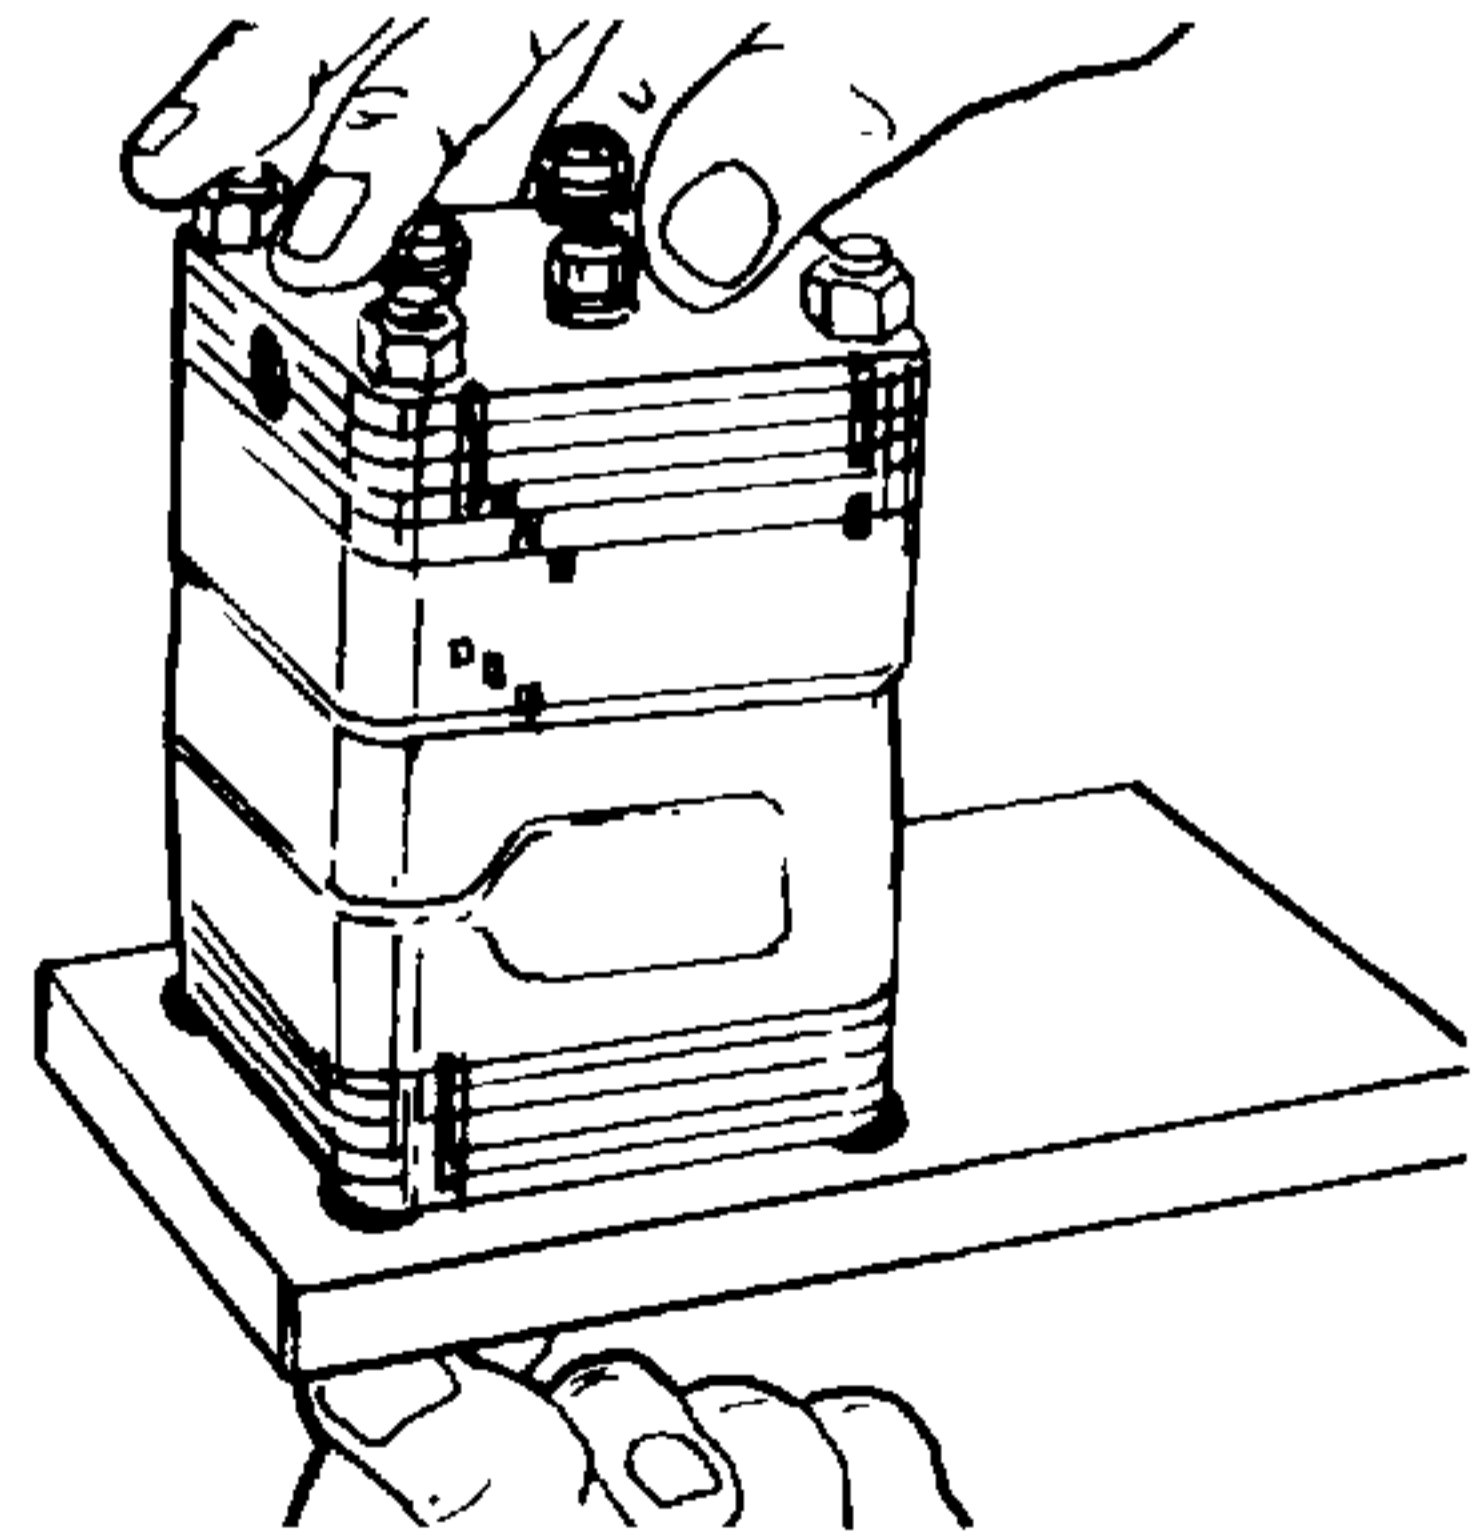
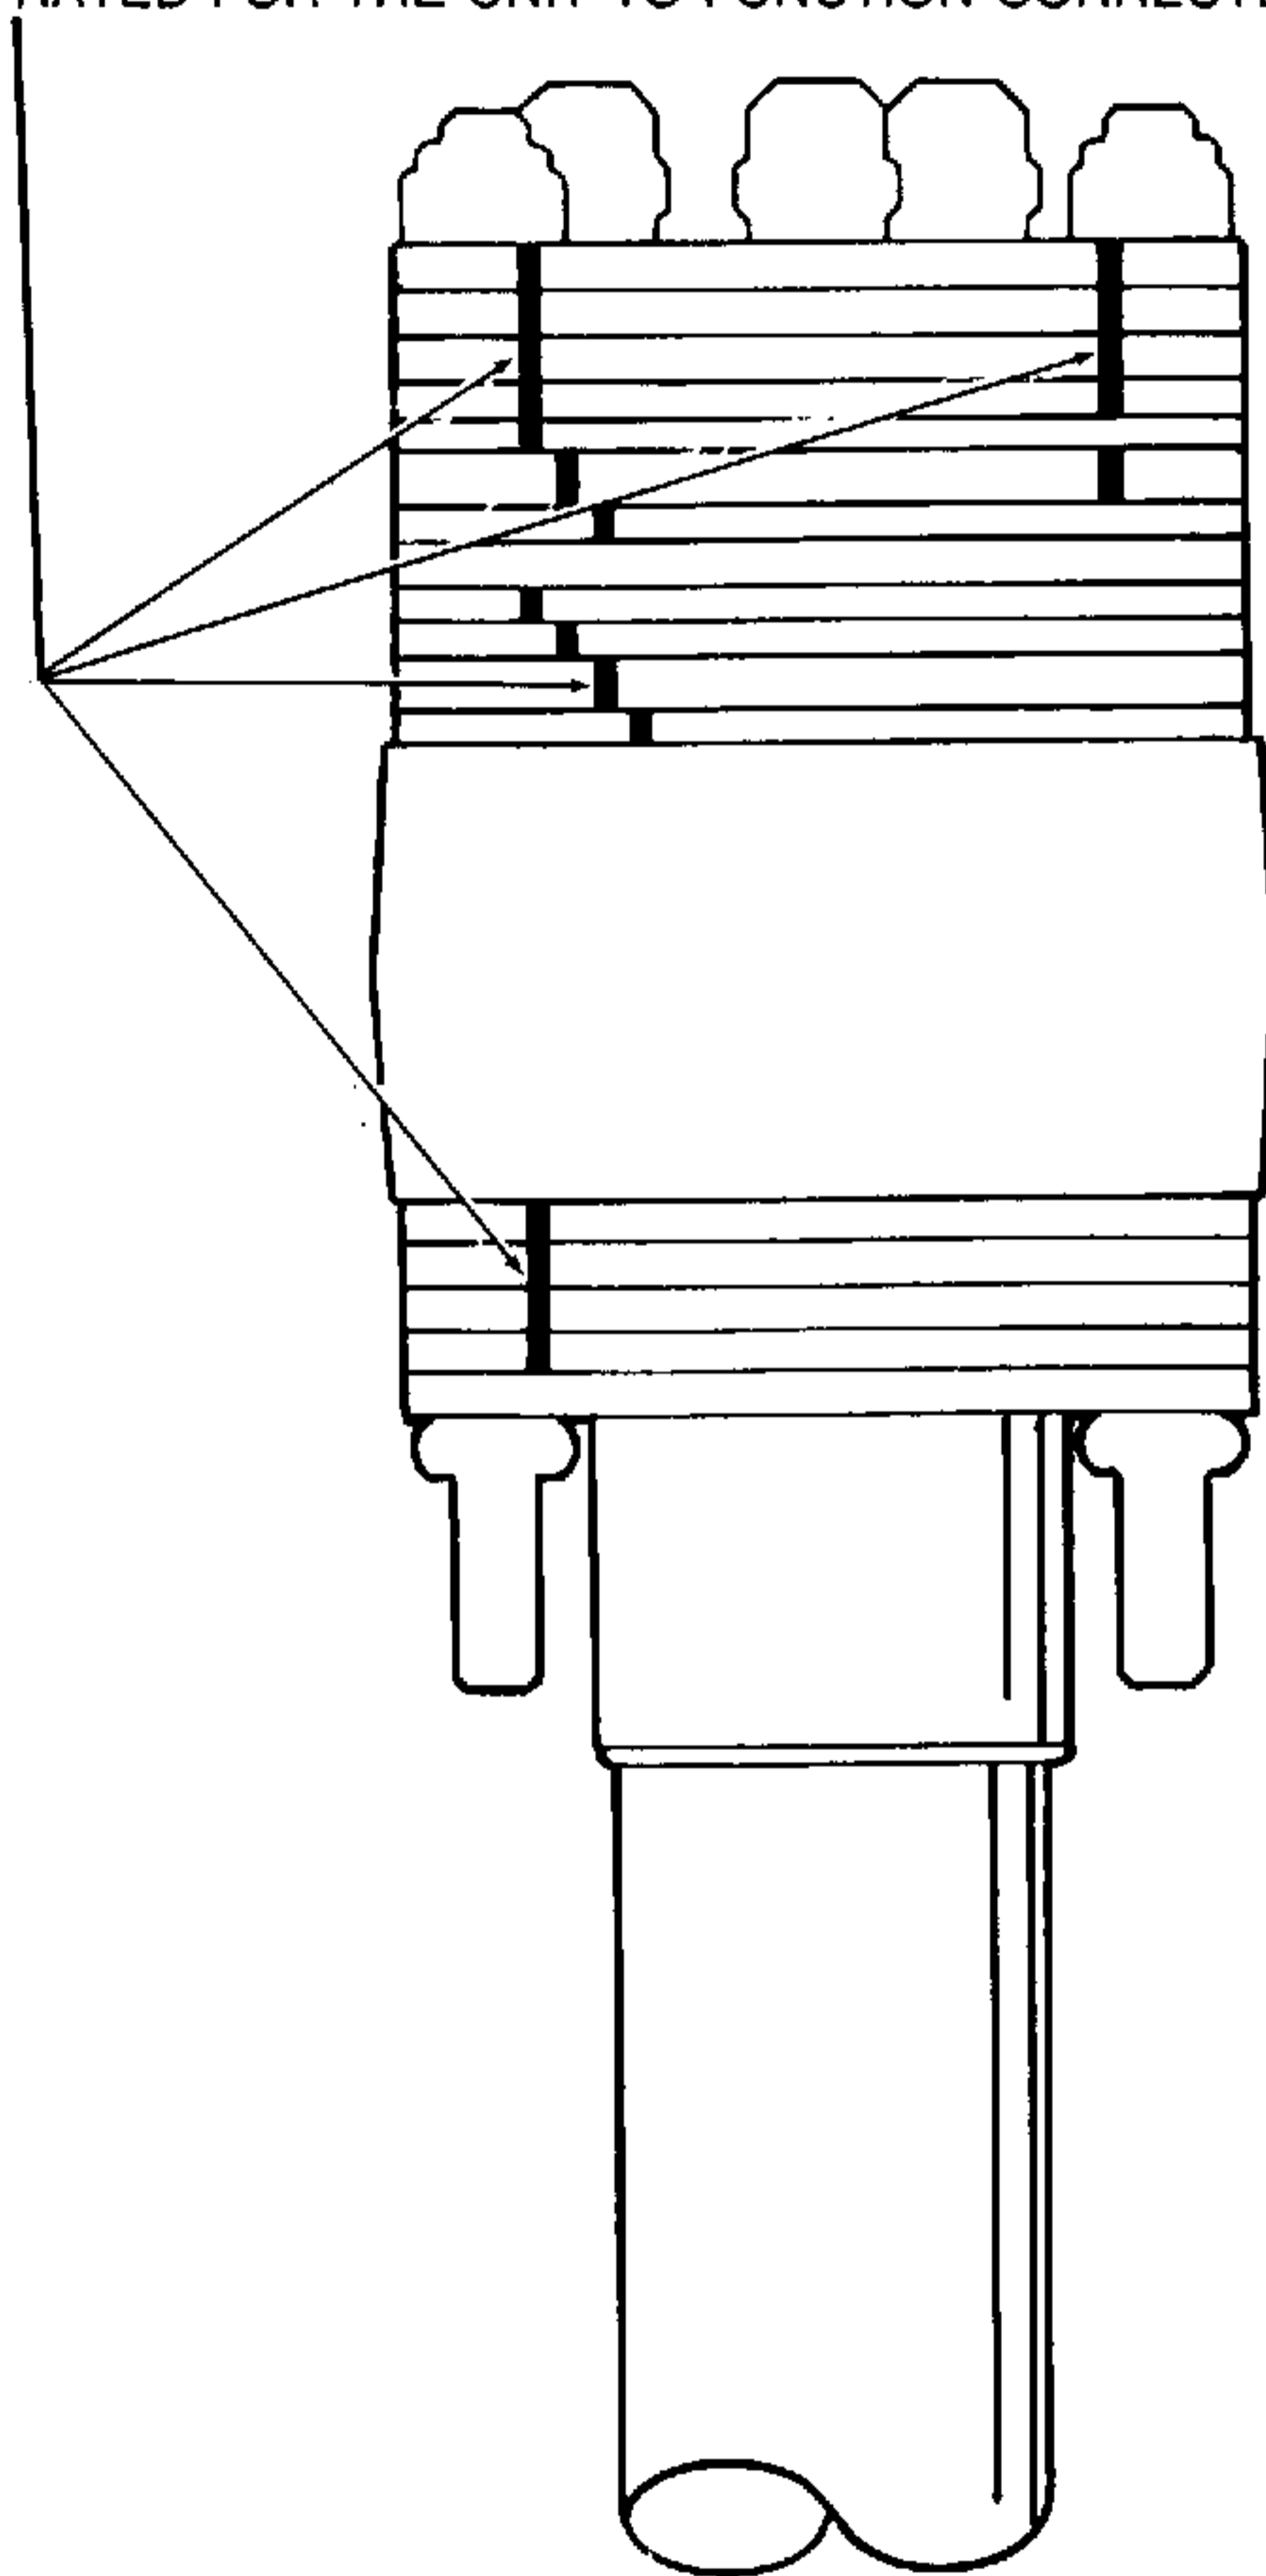

Figure 4-93. Removing Unit From Fixture.
Figure 4-94. Component Alignment Groove Illustration.
44. Make a final check of the relative groove positions on the side of the unit. See Figure 4-94. Disassemble and correct any misassembly. Remove the four nuts holding the unit to the fixture and remove the unit. See Figure 4-93.